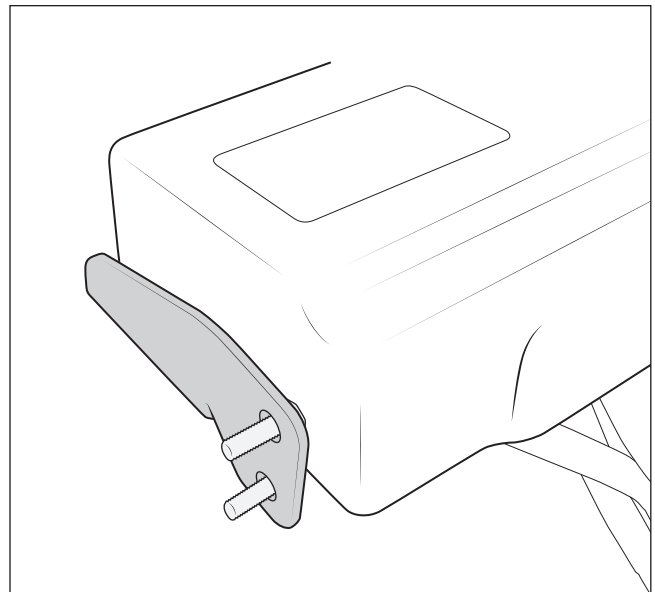

Figure 20
4. Insert the new m6 x 20 bolts and washers through the solenoid bracket, then re-install the solenoid pack cover (fig. 20).